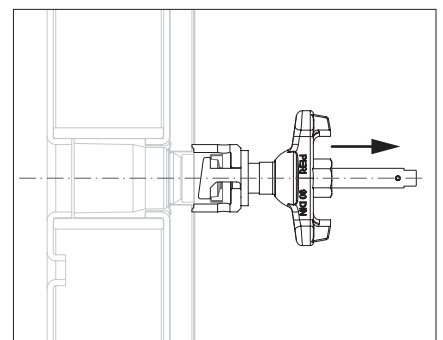

Fig. A21.03e
3. Fasten the extraction bell (83.2) and continue turning until the washer (5.1) is free. (Fig. A21.03e)
4. Unscrew the extraction head (83.1) from the washer (5.1). (Fig. A21.03e)